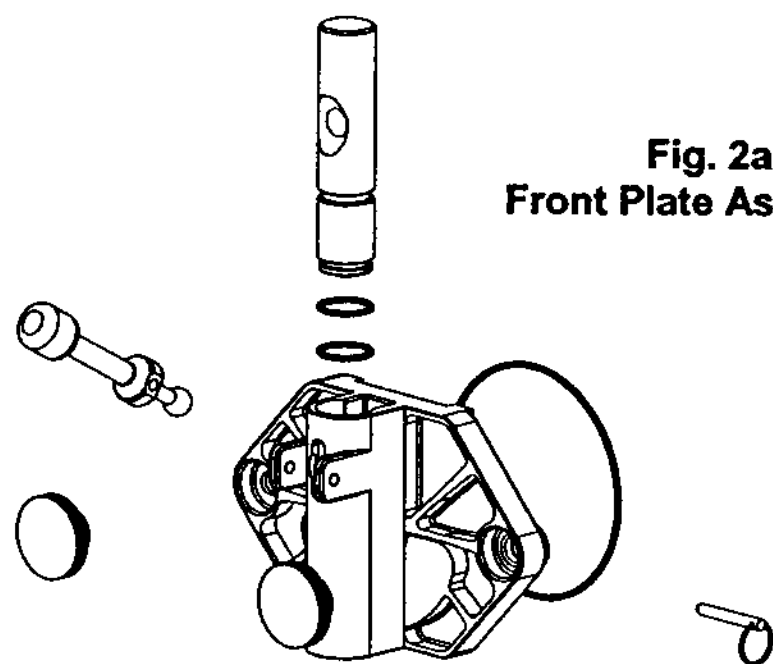

Fig. 2a
2. Remove the front plate and dasher assembly (Fig. 2a and 2b) by turning the two black plastic knobs on the front plate in a counterclockwise direction. After removing the knobs, pull the front plate off the studs. Grasp the front of the dasher assembly and extract it from the dispenser by pulling it out slowly and straight so the scraper blades are not damaged.